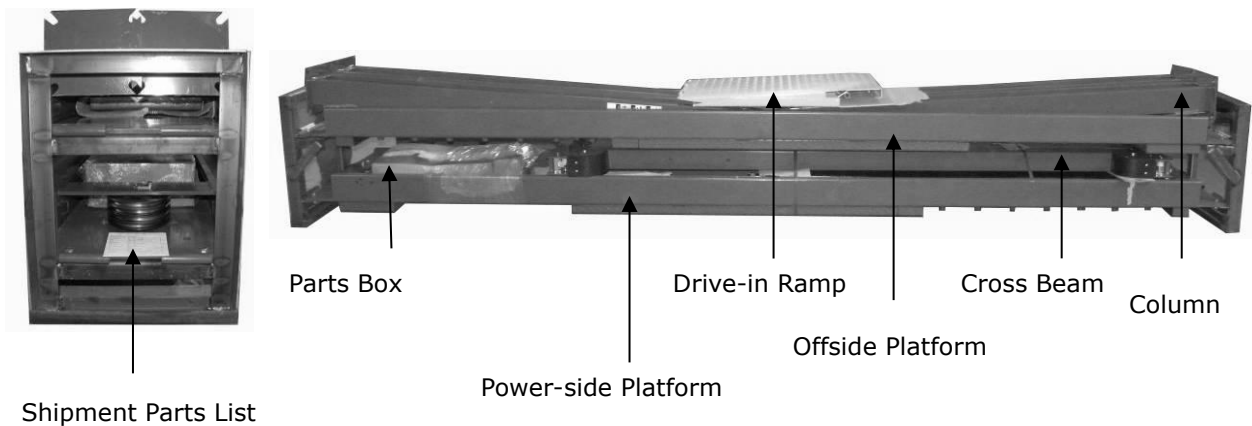

Fig. 7
2. Open the outer packing carefully (See Fig. 7).